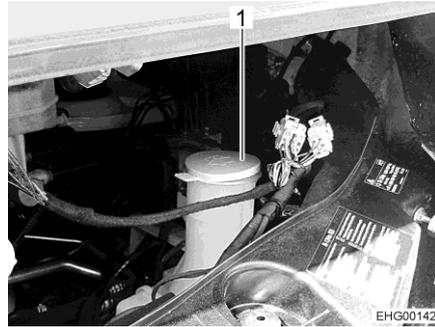

Fig. 37 Filler neck (washer fluid container)
- Remove the lid (Fig. 37,1) from the filler neck of the washer fluid container.
- Replace the cap (Fig. 37,1) of the filler neck of the washer fluid container.